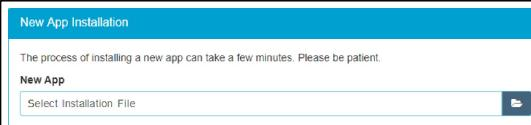

Figure 43
1. Click **Apps** in the menu bar; in the **Apps Management** page which is shown, **New App Installation** (see Figure 43) is found at the bottom.